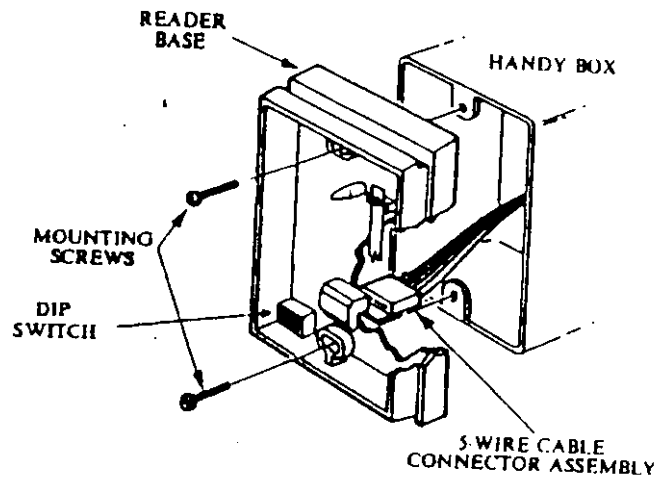

Figure 1
2. The reader can be mounted on a standard single-gang handy box (the preferred method) or on any firm flat surface. The mounting screws should be firmly tightened, but not excessively. See figure 1.